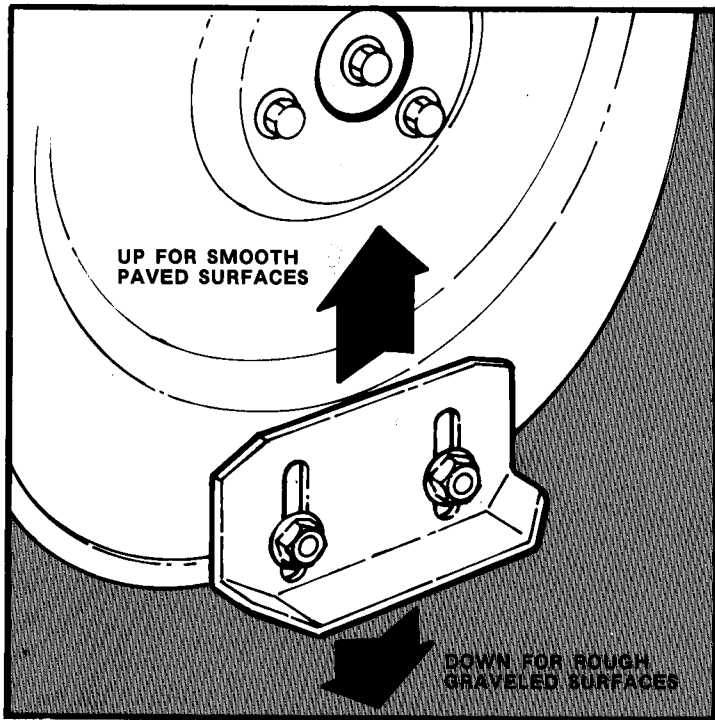

FIGURE 3.7
- E. **RESET RUNNERS** to suit area to be cleared. Lower skid shoes to provide greater clearance over gravel, or raise the shoes for smooth, paved surface. Refer to Figure 3.7, SKID SHOE ADJUSTMENT.
The skid shoes should be lowered to raise the blower housing to clear gravelled or rough surfaces. If necessary,adjust until almost even with the edges of the housing to allow clearing down to smooth paved surfaces. Note that the skid shoes can be installed upside down to track better over icy or hard-packed surfaces. To adjust the skid shoes, block under the lower edge of the blower housing. Loosen the retaining nuts and slide shoe up or down to desired height. Retighten the nuts. Set both skid shoes in the same position. See Figure 3.7.